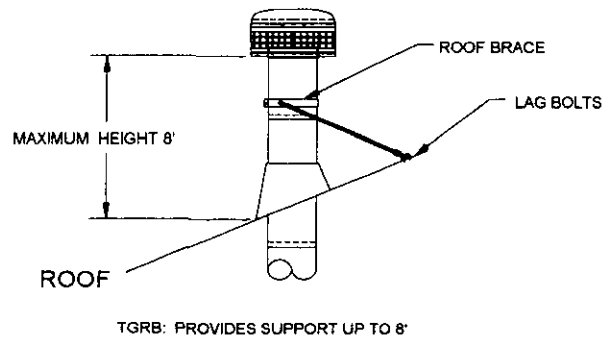
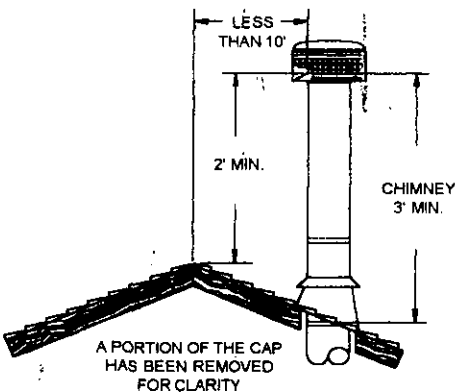
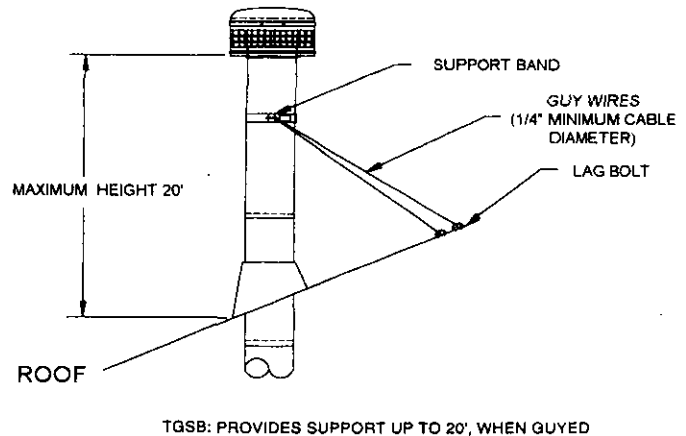

FIG. 22
FIG. 21
FIG. 23
- a.) The chimney must extend at least three (3) feet above the point where it penetrates the roof and,
- b.) It must extend at least two (2) feet above any portion of the roof within 10 feet horizontally. (See Figure 21.)
2. Additional support is required above the roof if the chimney height exceeds five (5) feet.
3. Select the proper support for your application, using either a roof brace (Fig. 22) or a support band with guy wires (Fig. 23).
3. Position the support legs as shown in Fig. 22. The length of the support legs can be adjusted by loosening the bolt on the leg clamp.